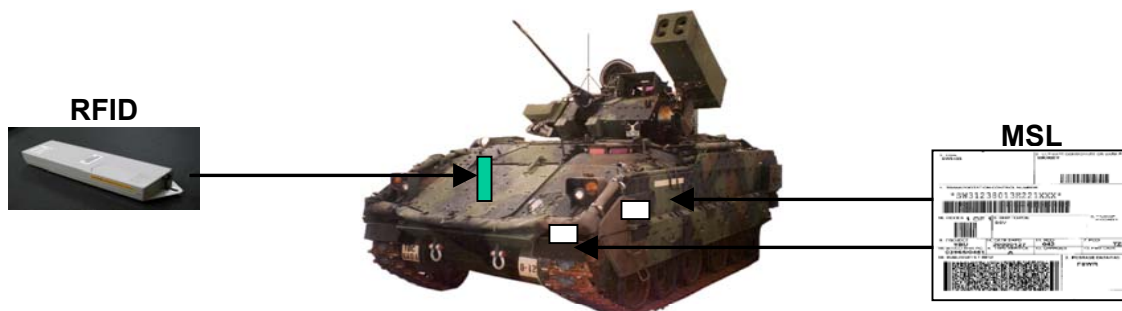

Figure 4-1 Vehicle Marking Standard
- Radio Frequency Tags – Vehicles will be marked with one RF tag. Attach the tag to grill or front of the bumper using nylon zip ties (see Figure 4-1).
- Military Shipping Labels – Vehicles will be marked with two MSLs. Attach one label to the left front bumper (driver's side) and one to the left door (driver's door) (see Figure 4-1).